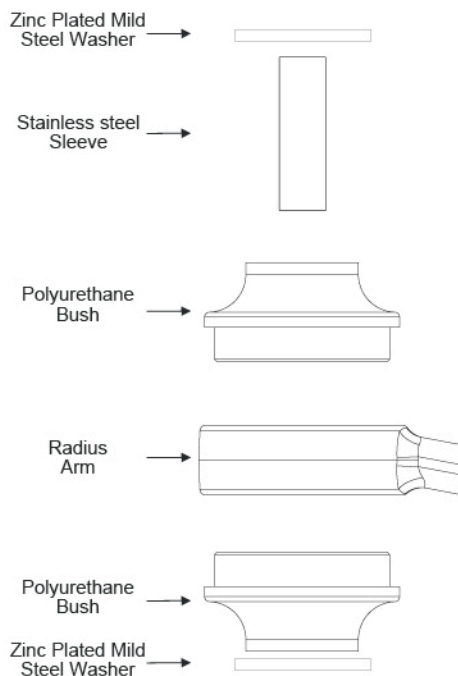

Figure 1
5. Insert stainless steel sleeve into bush as shown in Figure 1.